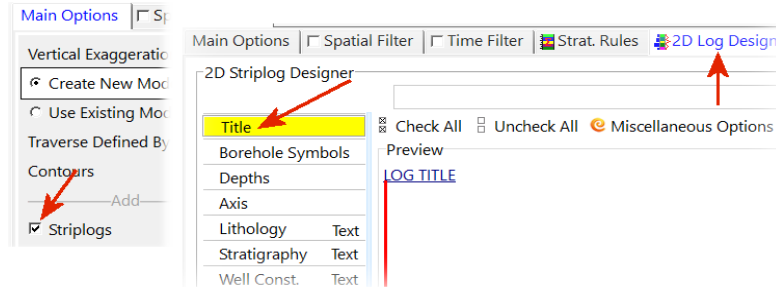

Figure 80
- Enable the *Striplogs* option, click on the *2D Log Design* tab, and disable everything within the *2D Striplog Designer* except for the *Title* (Figure 80).